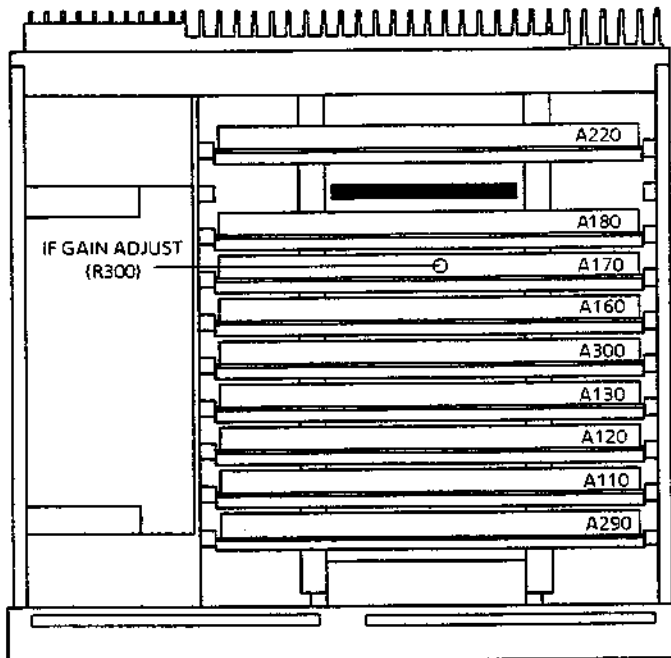

Fig. 4-6 Position of the potentiometer IF GAIN ADJUST, R300 (instrument seen from above)
- ▶ An indication outside this range requires the level indication to be set to 90 dB μ V \pm 0.2 dB by turning the potentiometer IF GAIN ADJ R300 (cf. fig. 4-6). Then readjust R701 on the I/Q Demodulator module, if required.